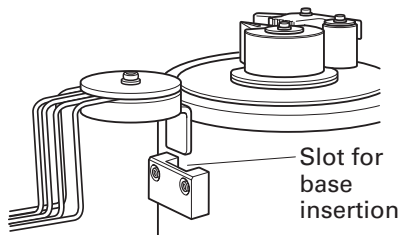

Fig. 18
- (1) Insert the base of the deflection guard into the slot of the rebar cutter/bender. (Fig. 18)